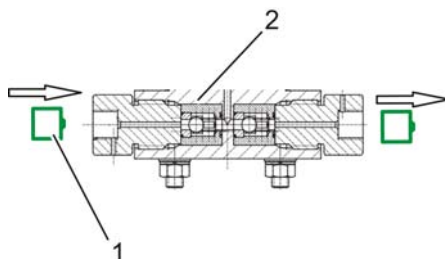

Fig. 92: Installation direction
9. ➔ Make sure when installing the valves that the conical valve seat (Fig. 92/1) of the valve is always inserted in the flow direction (Fig. 92/arrows) into the booster head (Fig. 92/2).